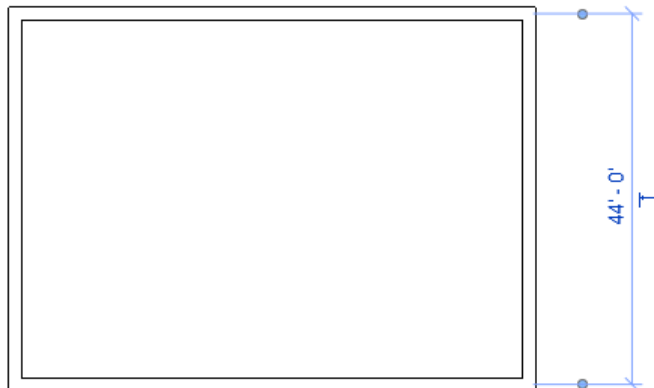

Figure 3-77 Rectangle drawn with its temporary dimensions
2. To start sketching the first inclined wall segment, click inside the four arrow keys in the drawing window and move the cursor downward toward the right and click again; a rectangle is created with temporary dimensions displayed along with it, as shown in Figure 3-77.